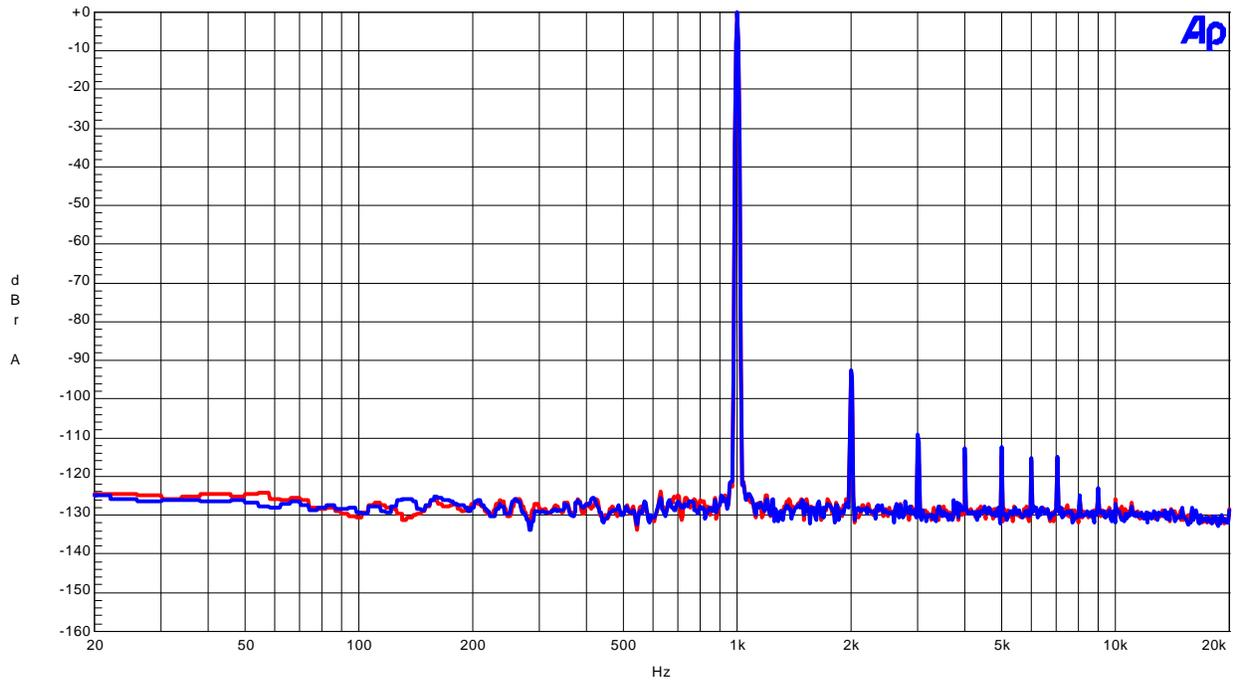

Figure 6 . FFT (1kHz, 0dBFS input)
- Figure 6. FFT (1kHz, 0dBFS input)